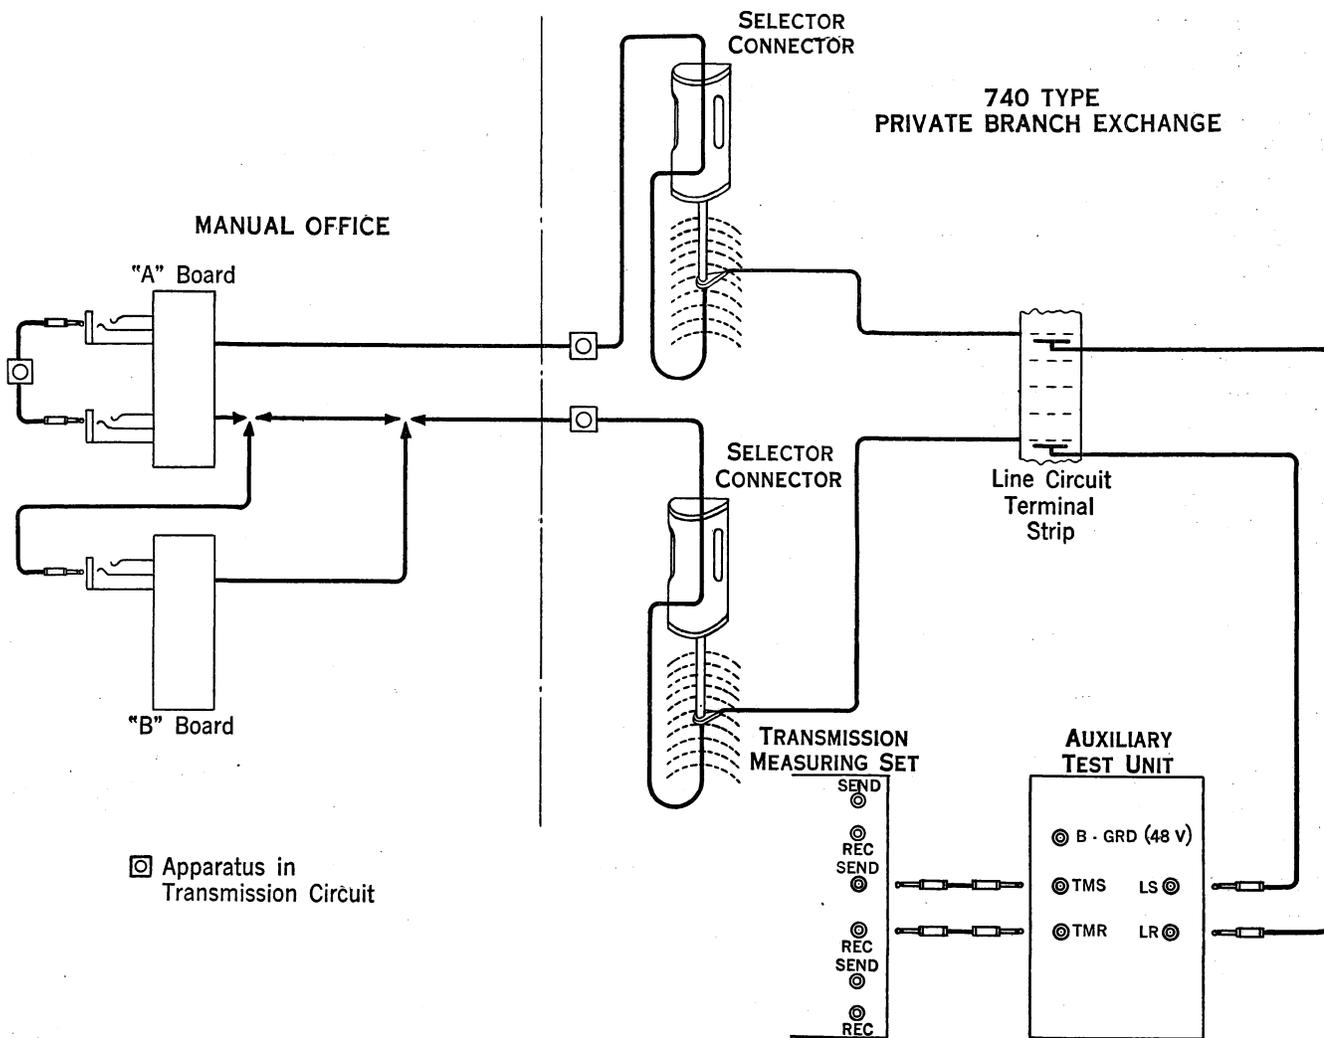

Figure 3
2.42 Figure 3 shows schematically the connections for the test.